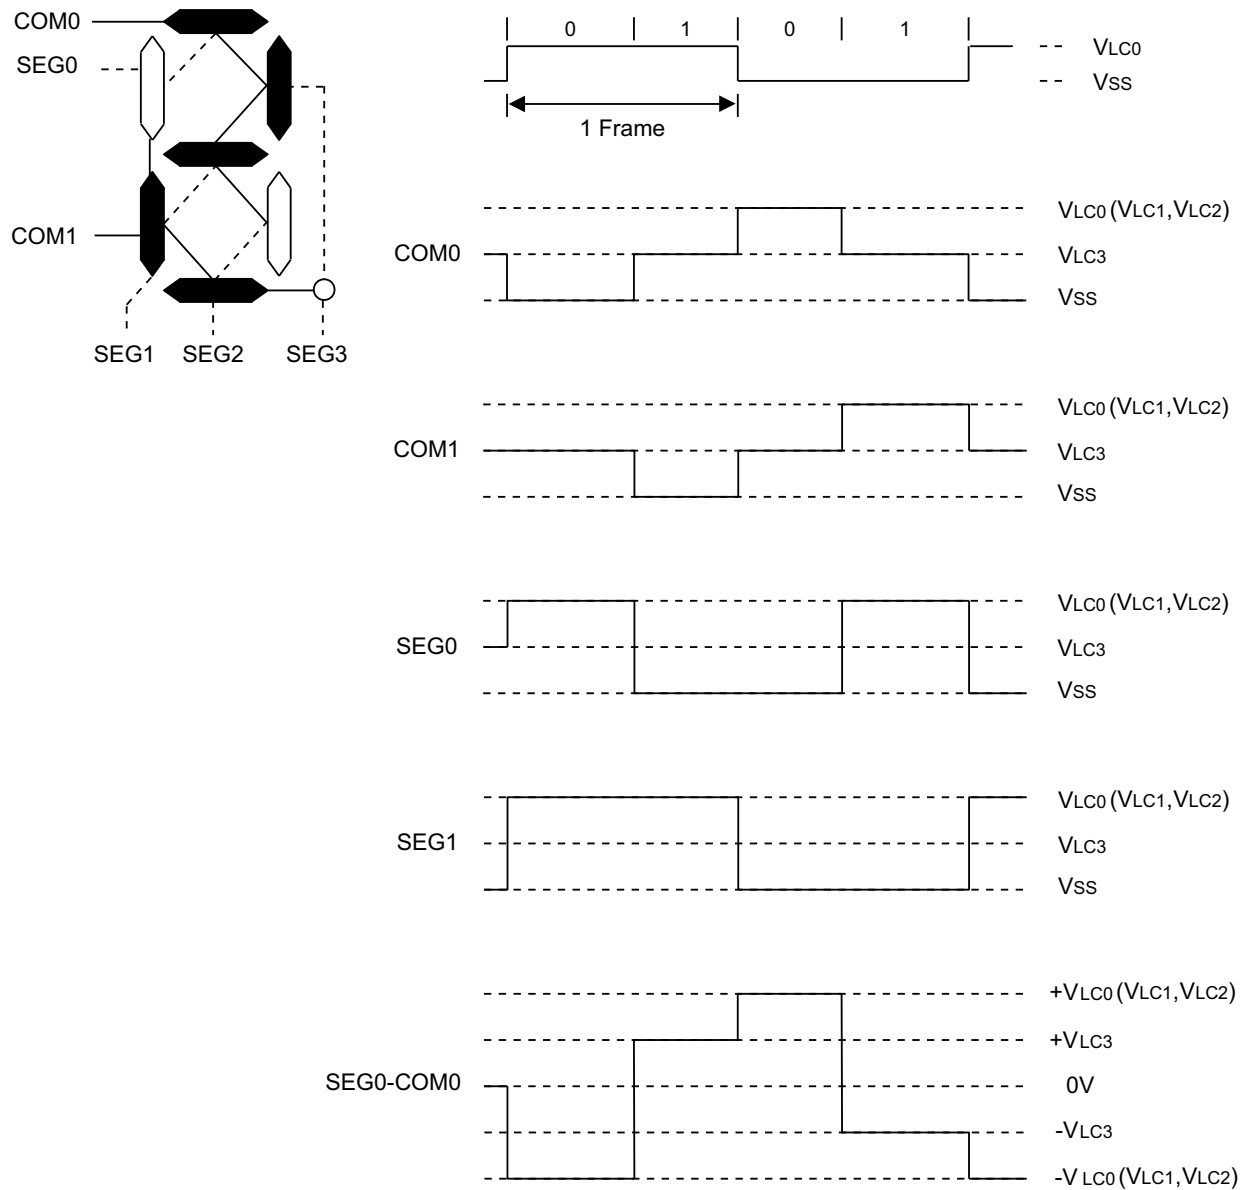

Figure 91. LCD Signal Waveforms: 1/2 Duty, 1/2 Bias
Figures 91 through 95 present waveforms of the LCD signal for differing duty and bias configurations.
► **Note:** In Figure 91, $V_{LC0} = V_{LC1}, V_{LC2}$.